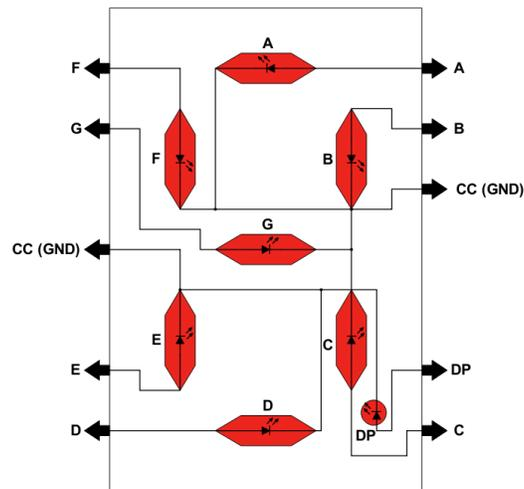

Figure 2: 7-Segment Display Diagram
- Ex. If the input is **0011**, LEDs A, B, C, D, and G should be on, while LEDs F and E should be off (“1” is LED on, and “0” is LED off). See Figure 2 for reference.